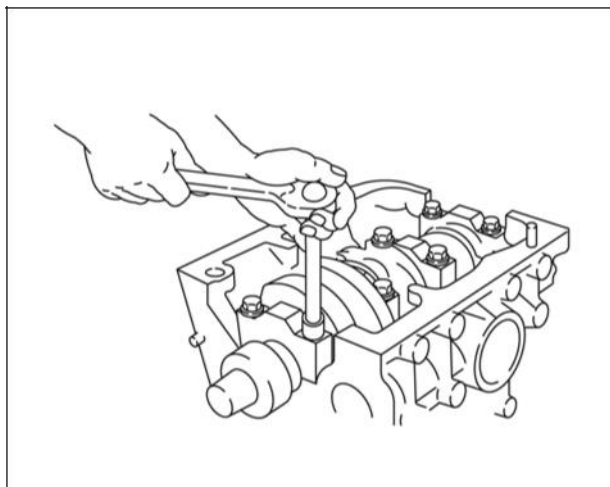

Figure 7
10. Remove crankshaft main bearing caps, keeping main bearings with their respective caps (Figure 7).